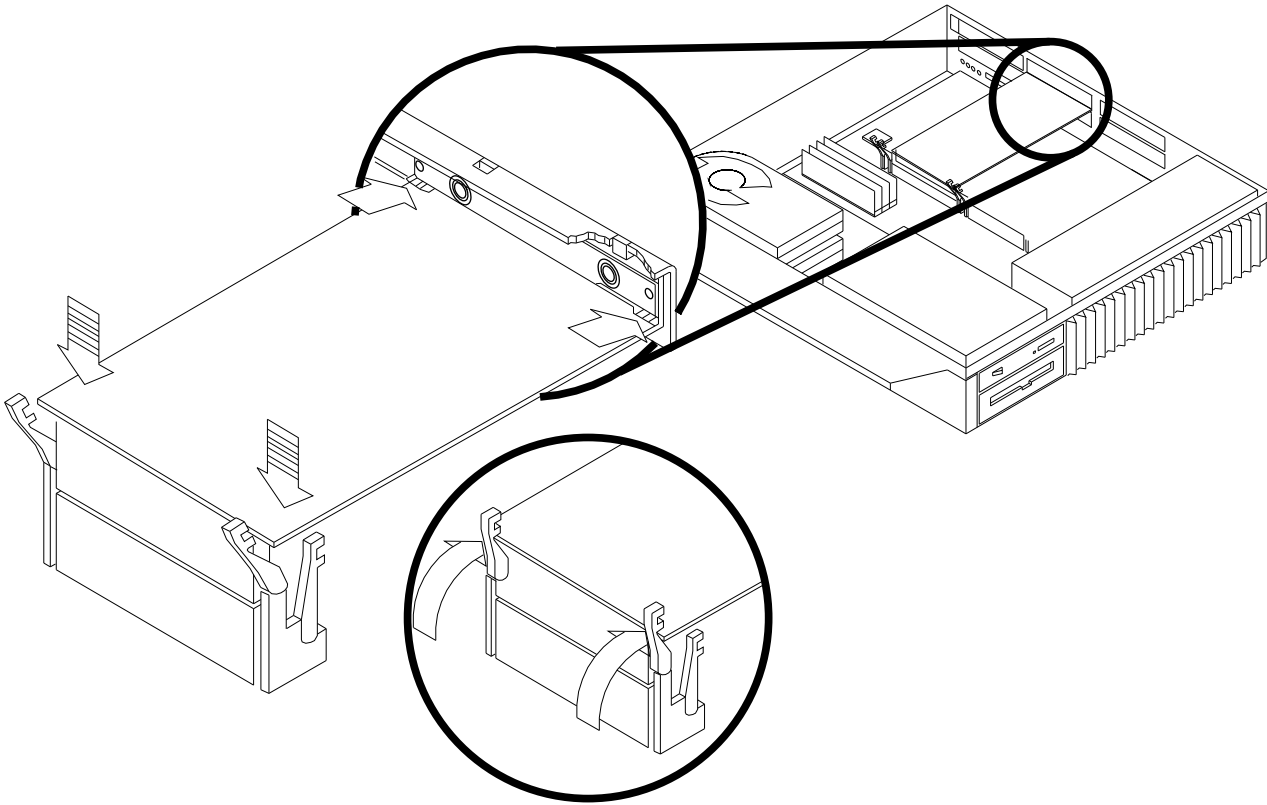

Figure D-21: Positioning the SBus Card
5. Place the SBus card at an angle (see Figure D-21) in the opening of the back panel.
9. Push the rear card retainers forward over the rear edge of the SBus card (see Figure D-21).